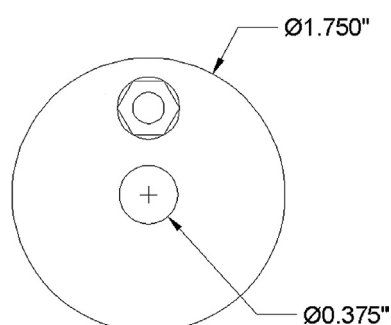

FIGURE 8.25
- Step 5.** Complete the rest of the top view by drawing the remaining circles and positioning the bolt at the top, as shown in Figure 8.25. Use accuracy (OSNAPs), although the bolt can be any distance from the top of the circle. Be careful to use diameter, as indicated.